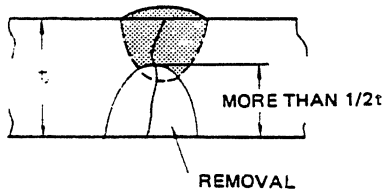

Figure 4-5. Removal of Crack
- (c) As shown in Figure 4-5, remove the opposite side of crack by more than a half of the wall thickness.